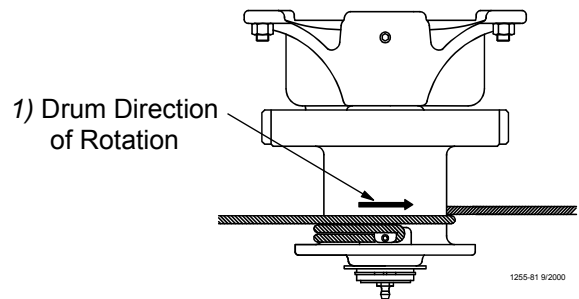

Figure 12. Power Winch Drum Rotation
5. Turn the winch drum one full revolution. Guide the cable against the flange at the bottom of the winch drum. The cable must not wrap over itself on the drum, but should be wrapped as close as possible to each previous wrap. See **Figure 12**.